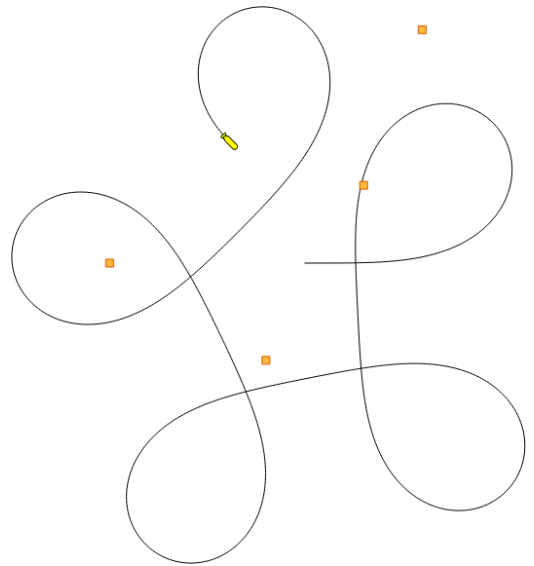

Figure 1: Trajectory of \mathcal{R} between a set of landmarks.
3. Download the file of this lesson, available at <http://codac.io/tmp/jnrr-2023/exercice.py>. Compile and/or execute the example. You should obtain the Figure 1 in the VIBes interface, without the landmarks.